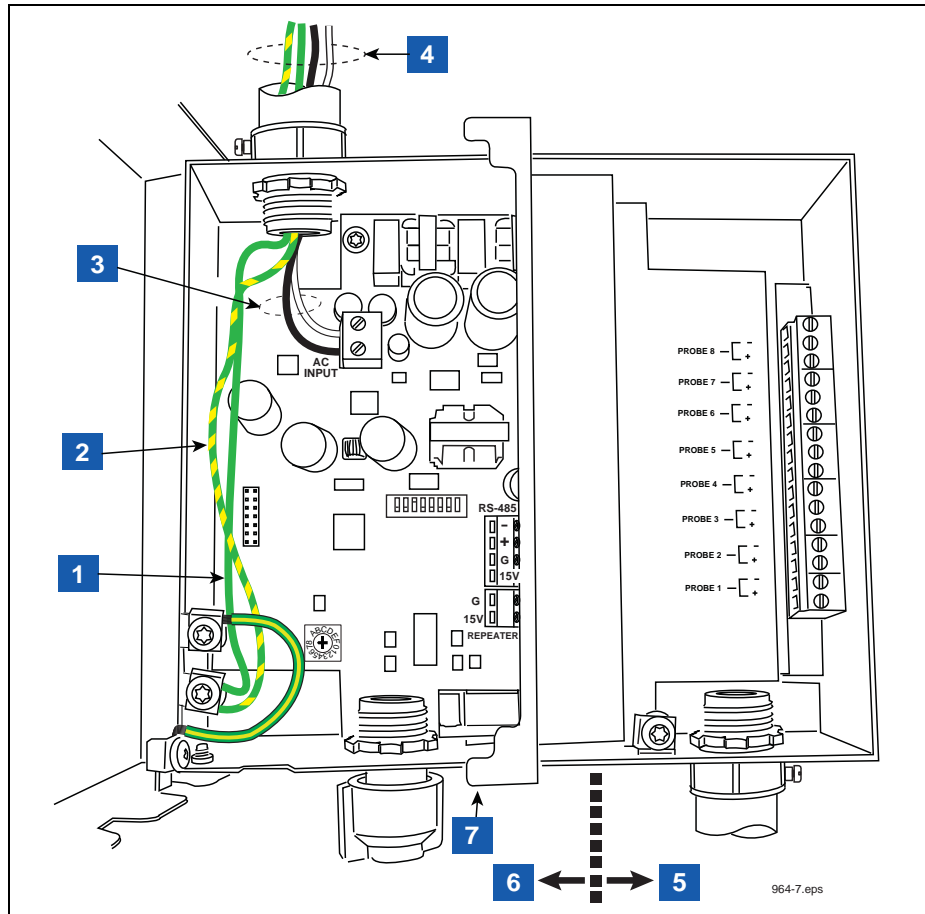
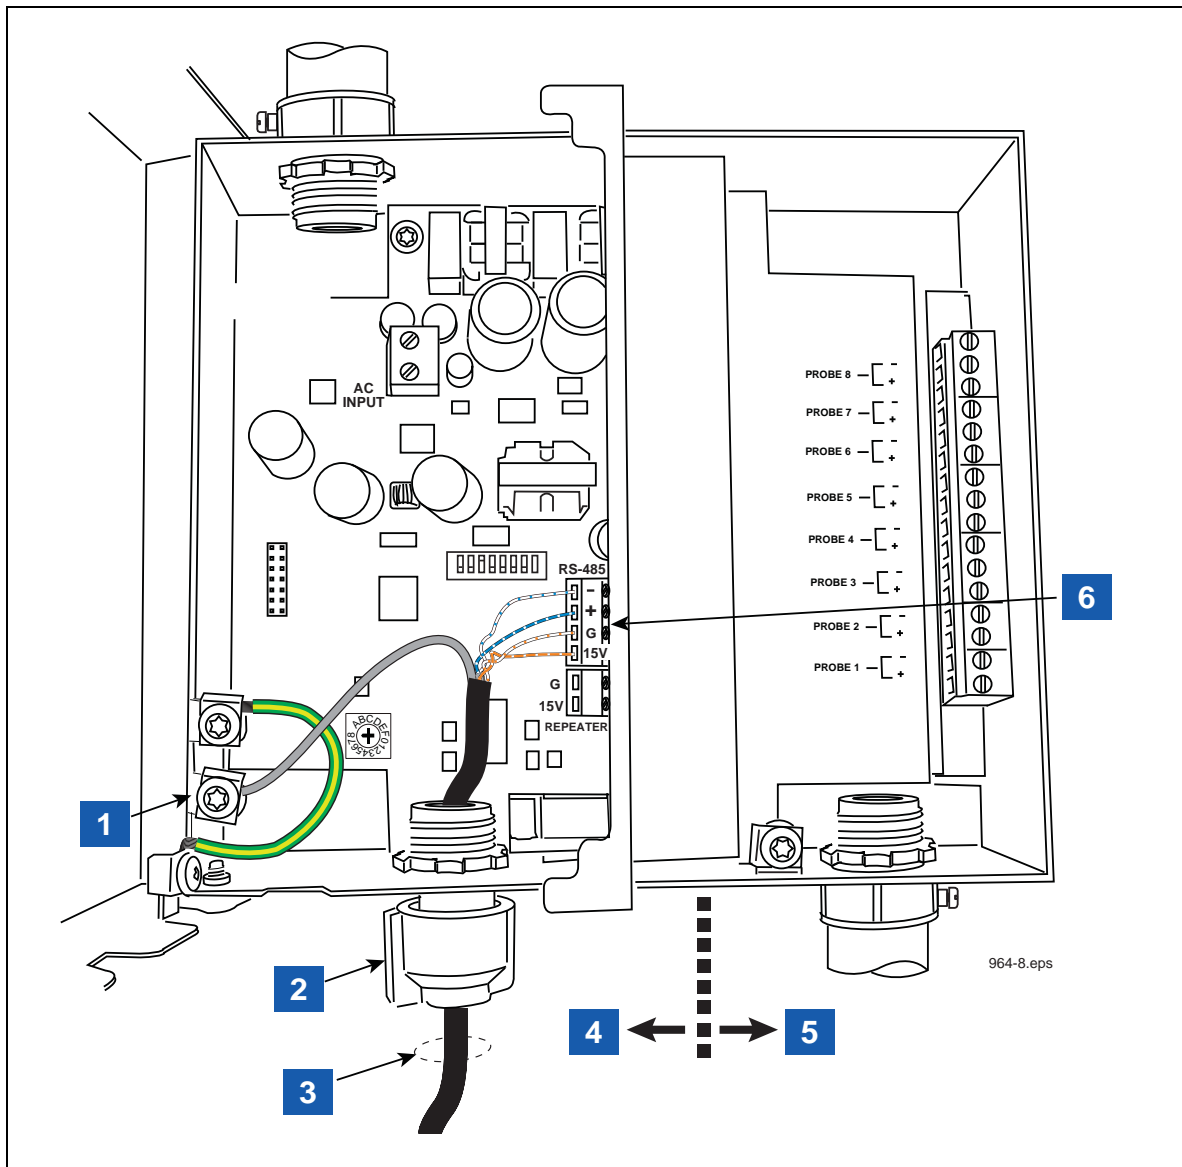
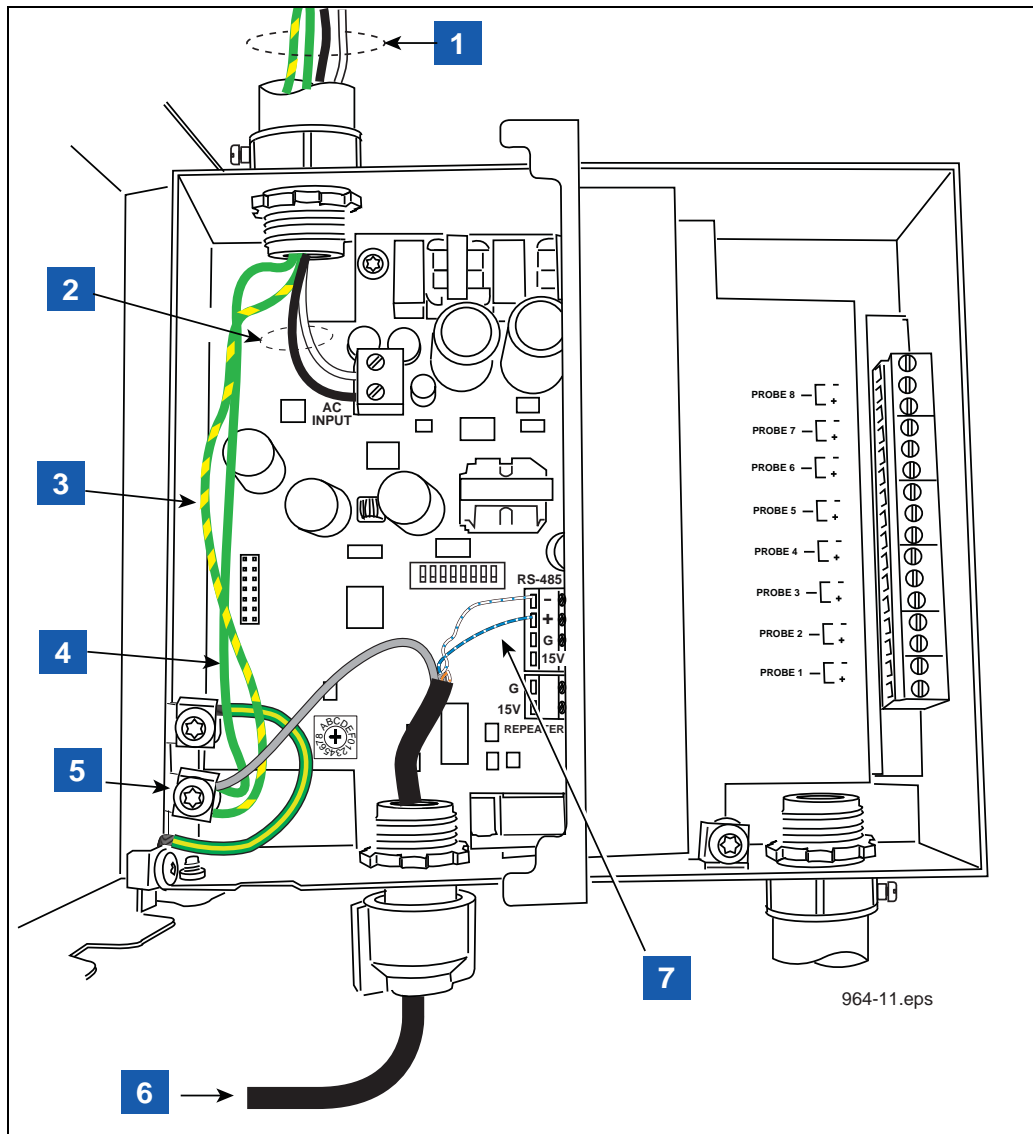
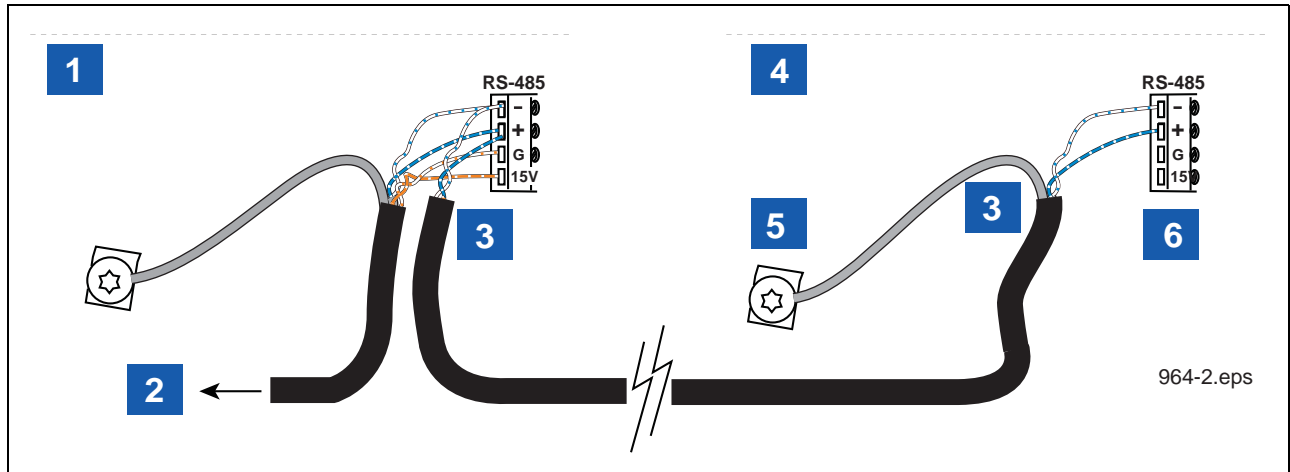

Figure 6. Wiring AC Power To The TLS RF
Figure 7. Wiring Receiver To The TLS RF
Figure 9. Power Connections To A Daisy Chained TLS RFs
Figure 10. RS-485 Cable Connections When Daisy Chaining Two TLS RFs
4. Using a #15 torx driver, open the covers of the TLS RF, Repeater and Receiver. Make a temporary ac power cord with a grounded plug on one end. Connect the ac power cord to the TLS RF's input power terminals and ground terminal (refer to Figure 6 and Figure 7). Connect a necessary length of RS-485 cable from the TLS RF's RS-485 terminals to the Receiver's RS-485 terminals (refer to Figure 20). Connect a necessary length of 2-conductor cable from the Receiver's Repeater terminals to the Repeater's Repeater terminals (refer to Figure 21).
To connect power wiring see Figure 6. To connect Receiver wiring see Figure 7. To daisy chain two TLS RFs, see Figure 9 and Figure 10. To connect TLS RF data output wiring to the TLS console see Figure 6.
LEGEND FOR NUMBERED BOXES IN Figure 6
LEGEND FOR NUMBERED BOXES IN Figure 7
LEGEND FOR NUMBERED BOXES IN Figure 9
| <p>1. POWER WIRING NOTES:</p> <ul style="list-style-type: none"> • Barrier ground must be #12 AWG or larger diameter. • Check to be sure that the electrical resistance - between the unit ground lug and a known good earth ground is less than 1 ohm. • Connect the power supply wires in the power panel to a separate dedicated circuit. • Electrical rating power input - 120 Vac or 240 Vac, 50/60 Hz, 2 A max. • See Figure 2 for actual locations of power conduit knockouts into the unit. Power wiring must enter only in one of these knockouts. <p>2. AC power input wires (#14 AWG) to AC input terminals.</p> | <p>3. Protective earthing conductor (green and yellow). Attach #12AWG barrier ground wire to ground lug. Ground must be the same as the supply and less than 1.0 ohms to ground.</p> <p>4. Attach chassis ground wire (#14 AWG) to ground lug.</p> <p>5. Connect the shield of the RS-485 cable to the ground lug.</p> <p>6. RS-485 cable from master TLS RF.</p> <p>7. See Figure 10 for connections.</p> |
LEGEND FOR NUMBERED BOXES IN Figure 10